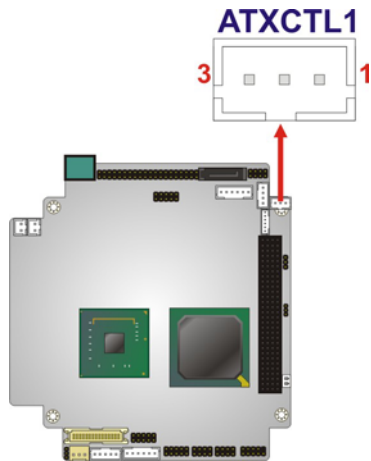

Figure 3-4: ATX Power Supply Enable Connector Location
- CN Location:** See **Figure 3-4**